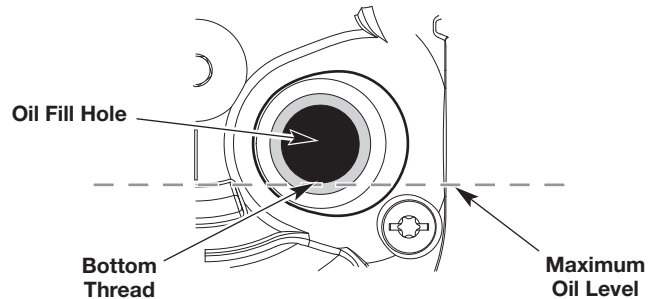

Fig. 27
5. Look into the oil fill hole; use a flashlight if necessary. **The oil level should just touch the bottom thread of the oil fill hole** (Fig. 27).